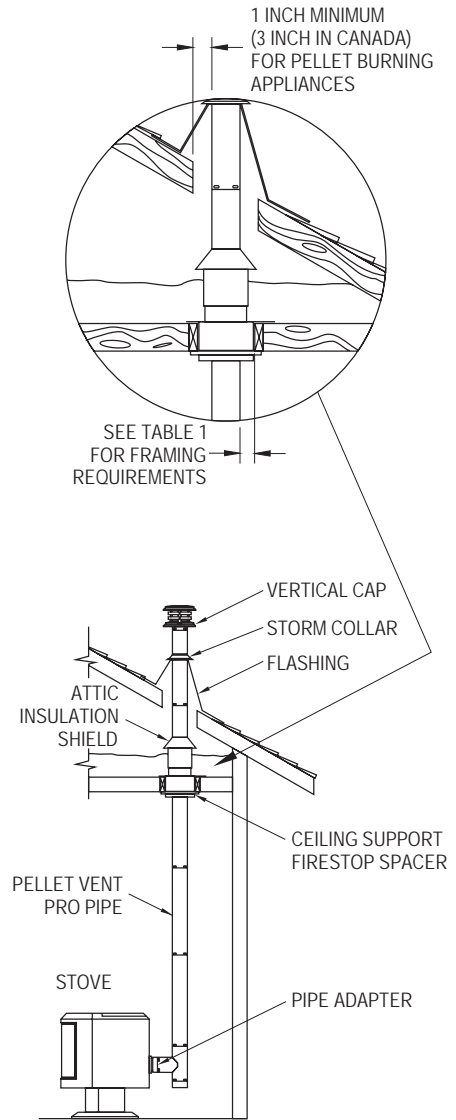

Figure 1
2. If the vent exit is on top of the stove (*Figure 1*):
G. When the PelletVent Pro enters the Attic, install an Attic Insulation Shield around the vent (Figures 1 & 3). This will prevent insulation and debris from collecting near the vent pipe. Use (4) wood screws to secure the base of the Attic Insulation Shield to the framed opening. Adjust the height of the Attic Insulation Shield by sliding the top cylindrical shield over the one from the base. Insure that the top of the Shield is above the level of building insulation. Secure the Shield in place with at least two (2) sheet metal screws through the side of the cylindrical shield. Attach collar around the top of the Attic Insulation shield.